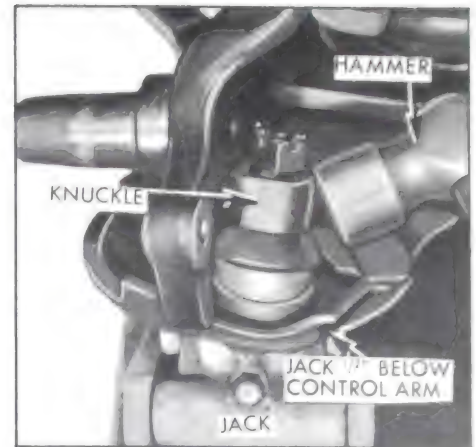

Figure 7-19—Separating Ball Stud From Knuckle
8. Rap the steering knuckle in the area of the stud to separate the stud from the knuckle. See Figure 7-19. Raise the jack against the control arm to relieve pressure on the nut, remove the